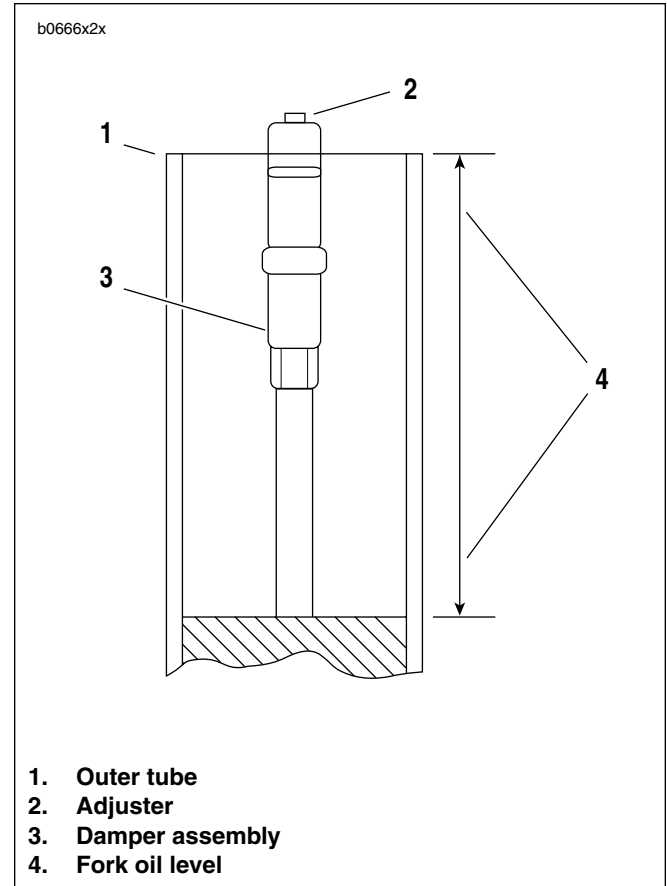

Figure 2-76. Measuring Fork Oil Level
17. See Figure 2-76. Adjust fork oil level with FRONT FORK OIL LEVEL GAUGE (Part No. B-59000A) so that it is 4.45 in. (113 mm) from the top of the fork tube.